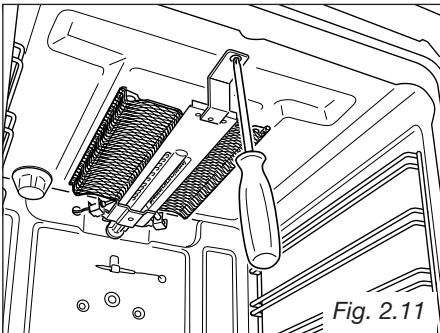

Fig. 2.11
- Remove the burner by unscrewing the front screw (fig. 2.11). Gently suspend the burner as shown in figure 2.12. Be careful not to damage the wire of the electric ignition and the probe of the safety valve.